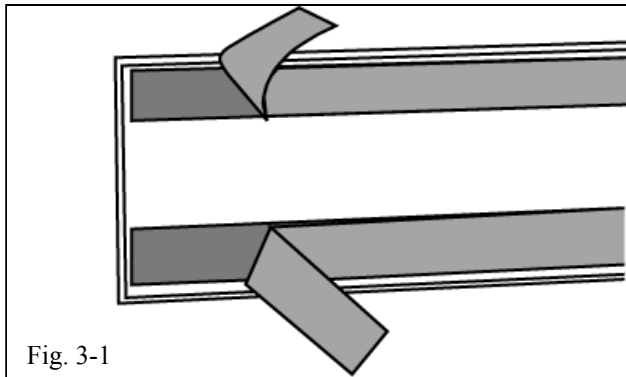

Fig. 3-1
- (a) On the inside of each of the four moldings is identified as to their correct position on the vehicle. While carefully holding the molding by its edges, fold the tape tabs on the horizontal tape lengths upwards (top piece) and downwards (bottom piece) (Fig 3-1) such that the tabs are accessible when the molding is in install position.